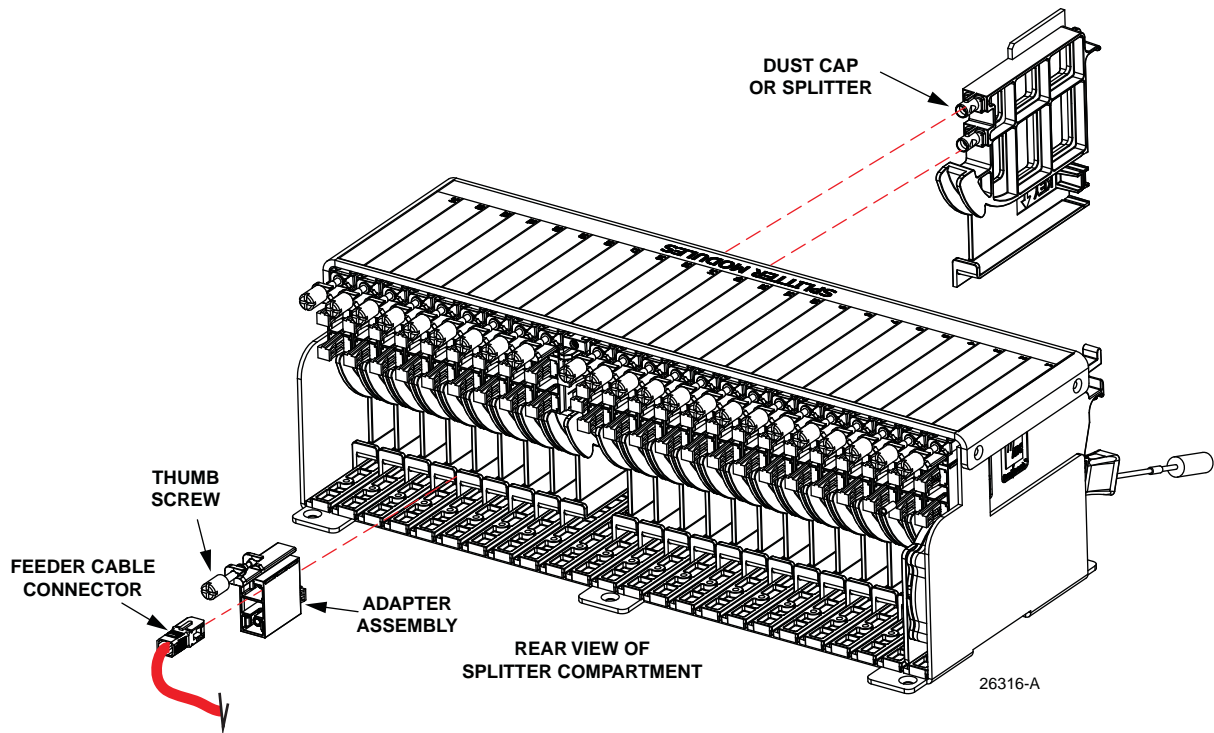

Figure 40. Splitter Compartment Adapter Replacement
3. Remove the feeder cable connector(s) from the rear side of the broken adapter assembly as shown in Figure 40 and install a dust cap on the connector(s).